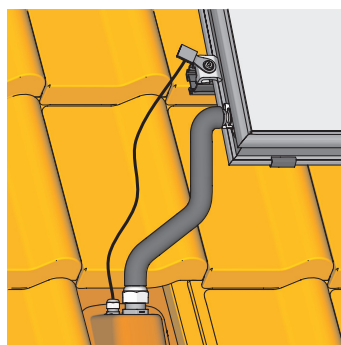

Fig. 3-39 Work step 17
17. Slide the clinched thermal insulation hose over the fitting (Fig 3-39).